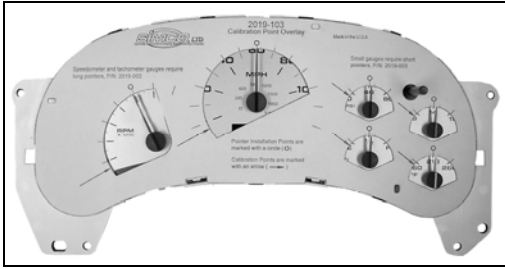

Figure 7
- A. Lightly press a pointer on a gauge aligned up at the installation point marked with a circle (○) that is specified on the Calibration Overlay (see figure 7).